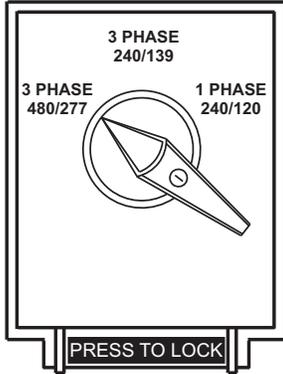

Figure 21. Voltage Selector Switch (3-Phase 480/277-Volt Position)
1. Place the **Voltage Selector switch** in the **3-phase 480/277-volt position** as shown in Figure 21.